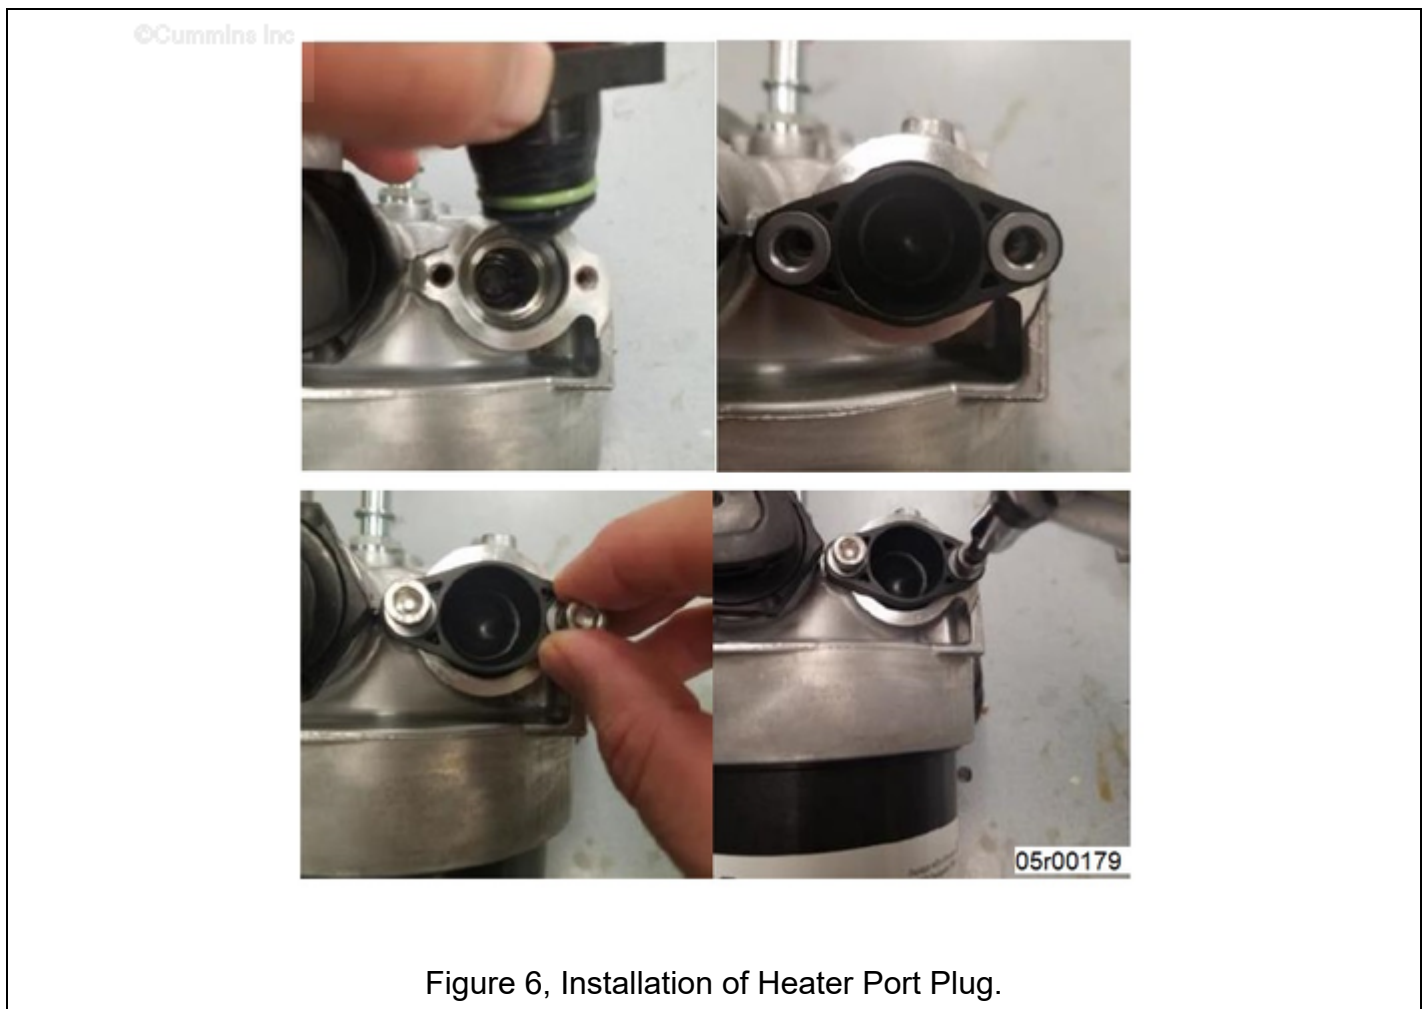

Figure 6, Installation of Heater Port Plug.
9. Lubricate the o-ring on the plug (supplied in kit part number 5579133) with clean diesel fuel and carefully install into the engine fuel heater port, making sure to properly align before installing. See Figure 6 below.
10. Use the two allen screws supplied to secure the plug to the fuel filter head and tighten to 11 N-m [6.6 ft-lb]. See Figure 6 below.